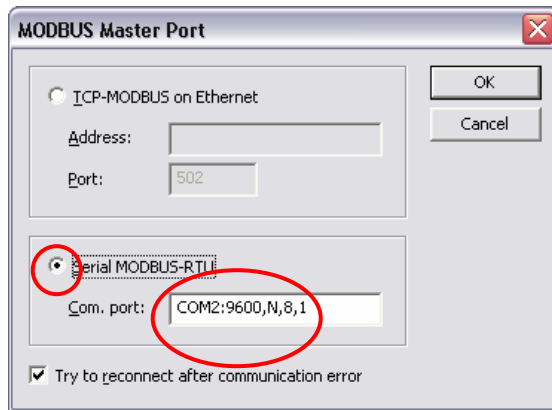

Fig. 6
The "Modbus Master Port" window will appear. For a serial connection to the unit, click on "Serial MODBUS-RTU". Now you have to declare witch COM-port you are using, what the baudrate is, parity, and number of stopbits. See below fig. 6
In fig. 6 the COM port used is 2, the baudrate is 9600, there is no parity (N), the number of databits is 8 and the number of stop bits is 1.